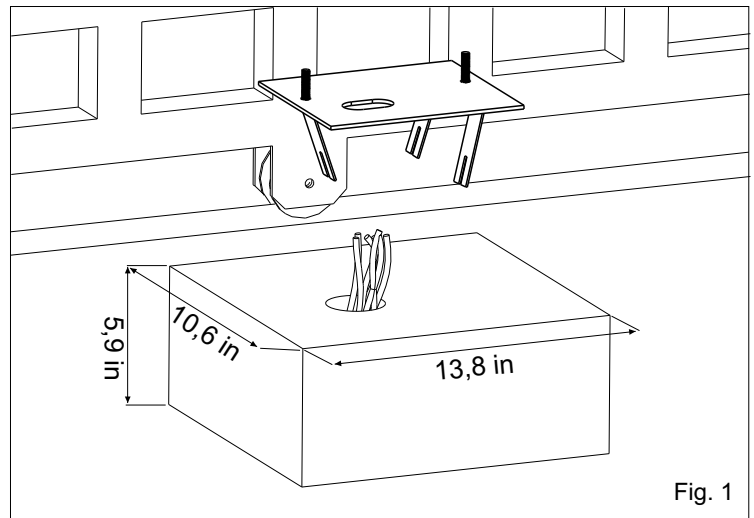

Fig. 1
**2.1.** Have a mounting plate manufactured to the dimensions shown in Fig. 1. The plate will require to have concrete holding into which the foundation plate and the anchor bolts will be walled up. It is best if the gate structure allows the plate to be raised up from the finished level by 1,96 in. This will stop water gathering around the operator.